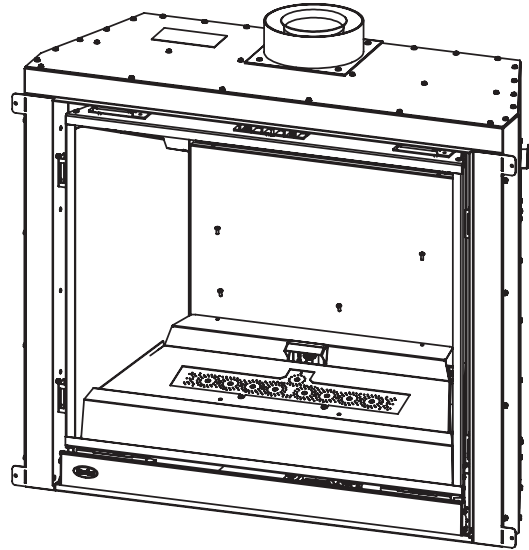

Figure 20. Removing Glass Tray
**Step 2:** Remove the glass media and the enameled glass tray as shown in Figure 20.